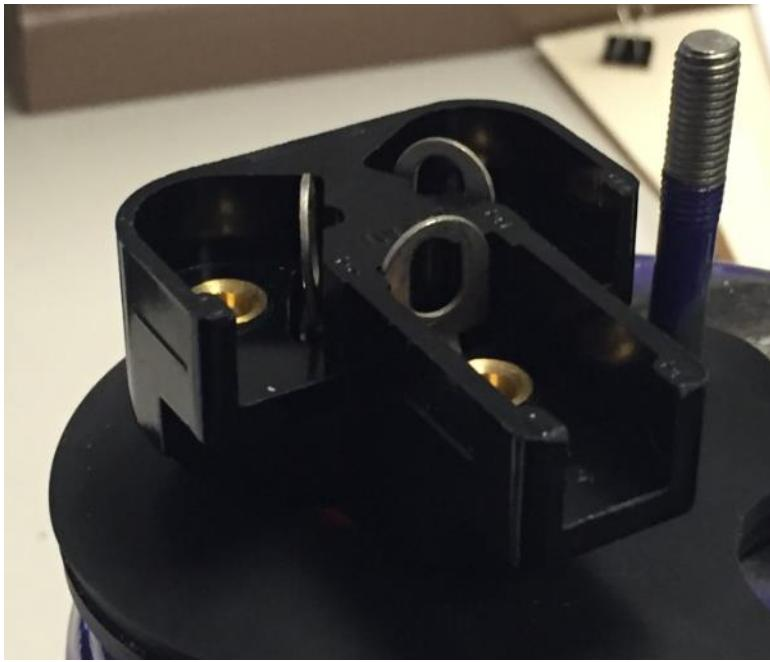

Figure 1
- Set the connector block over the terminals feeding each terminal through the designated slot as shown in Figure 1